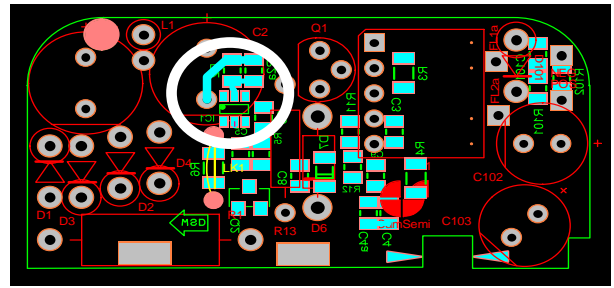

Figure 3: Current Sense Resistors
The current sense resistor programs the power supply giving it the required rated current. The path from the current sense resistor to the IC is highlighted in Figure 3. The connection should be as small as possible and the track wide (at least 0.02" or 0.5 mm). The current sense resistance is small and any track resistance will affect the operation of the power supply.
- Current Sense Resistors - Figure 3